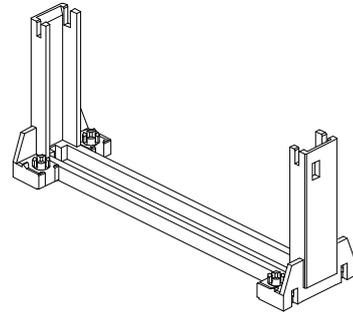

Figure 2-1-1
- **Retention Mechanism (RM)**- Plastic Guide with captive nuts that hold the S.E.C. Cartridge in the Slot1 connector. (Refer to Figure 2-1-1)